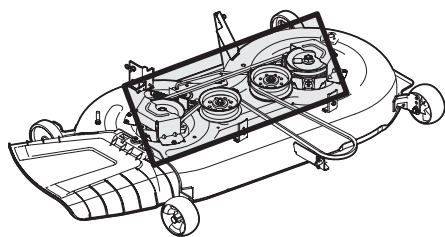

Figure 32
- Clean the top of the tractor deck, under the spindle covers and belt area. See Figure 32.